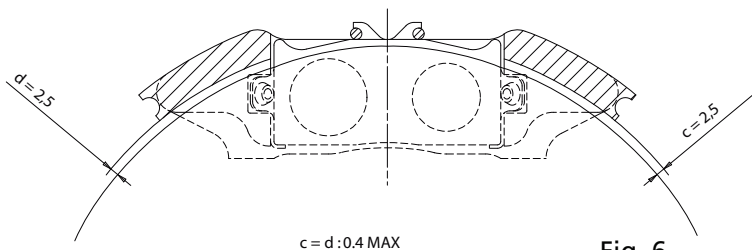

Fig. 6
- g. The clearance between disc outer circumference and Caliper Bridge must be 2 mm MIN, with a difference between the two sides of 0.4 mm MAX (see Fig. 6).